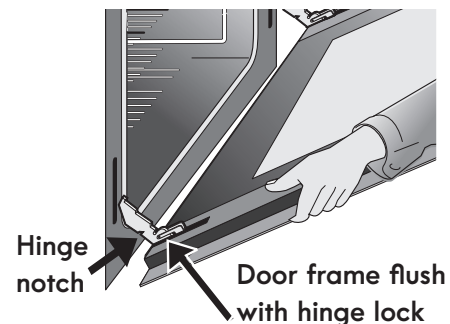

Figure 6: Remove door position
4. Pull the bottom of the door toward you while rotating the top of the door toward the appliance to completely disengage the hinge levers (Figure 6).
1. Firmly grasp both sides of oven door along the door sides. Do not use the oven door handle (Figure 6).
2. Hold the oven door at the same angle as the removal position. Carefully insert the hinge levers into the oven frame until you feel the hinge levers are seated into the hinge notches. The hinge arms must be fully seated into the hinge notches before the oven door can be fully opened. (Figure 6).